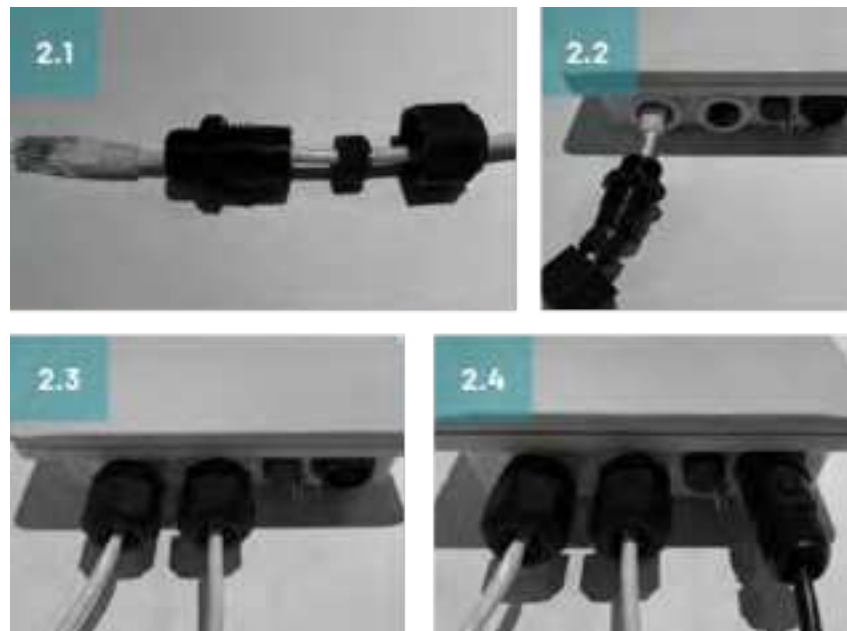

Figure 5.4-3: Ethernet cable assembly and cable connection
Step 2 (see Figure 5.4-3): Ethernet cable assembly and cable connection. Apply liquid-tight cord grips (LTCG), consisting of a sealing nut, split gland, and body, to the Ethernet cable. Pass the cable termination through the sealing nut, apply the split gland to the cable, and insert it into the LTCG body. Optional: for better waterproof operation, it is recommended that installers use Teflon tape to cover threads before installation. Users may also wish to use silicon sealant to further protect from the ingress of liquid (2.1). Insert the Ethernet cable into the RJ45 socket on the power injector. Screw the LTCG body onto the POE075U power injector and tighten the LTCG body. Push the split gland into the LTCG body. Tighten the sealing nut (2.2). Use the